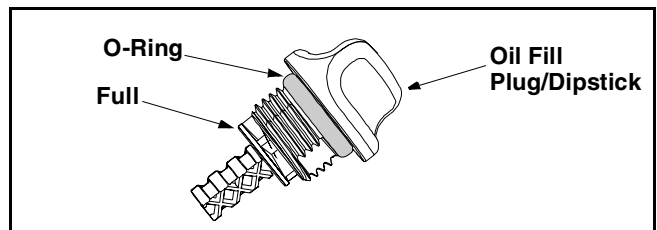

Figure 8
- If the level is low, add a small amount of oil to the oil fill hole and recheck. Repeat until the oil level reaches the top of the dipstick. See Figure 8.